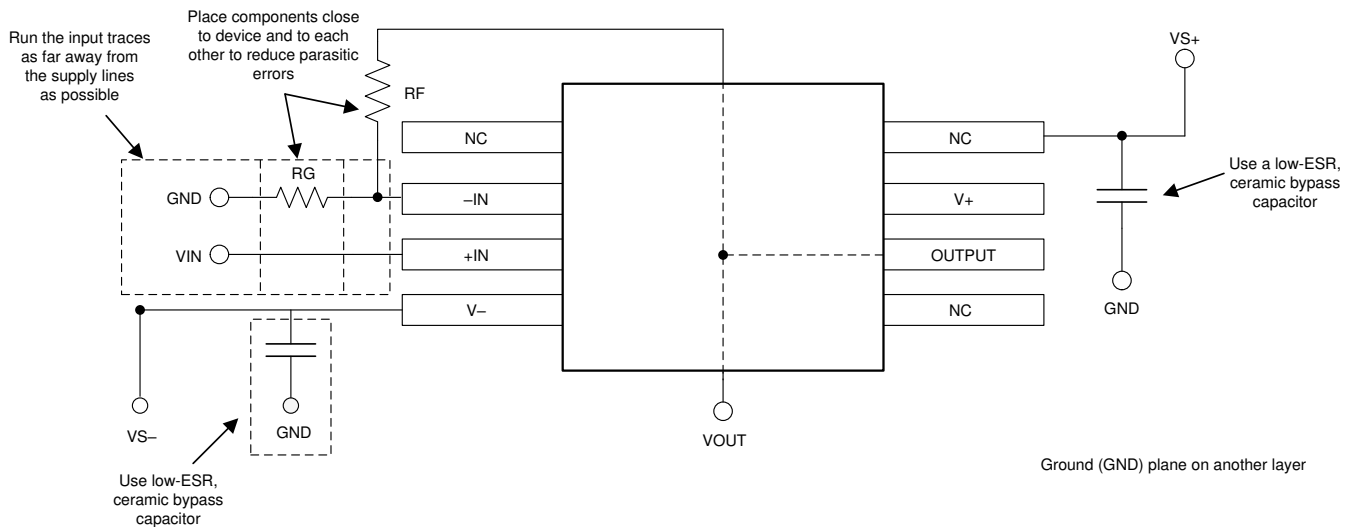

Figure 10-1. Operational Amplifier Board Layout for Noninverting Configuration
- Place the external components as close to the device as possible. As shown in Figure 10-1, keeping RF and RG close to the inverting input minimizes parasitic capacitance.